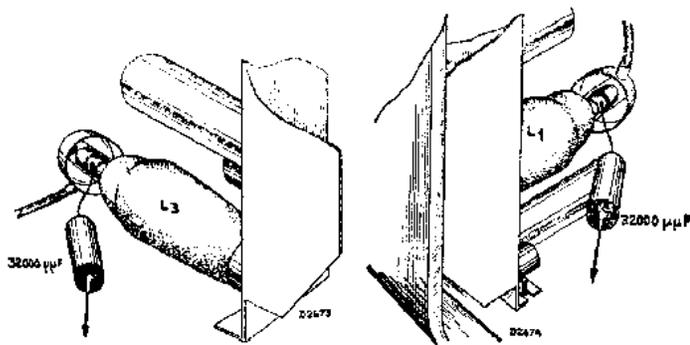
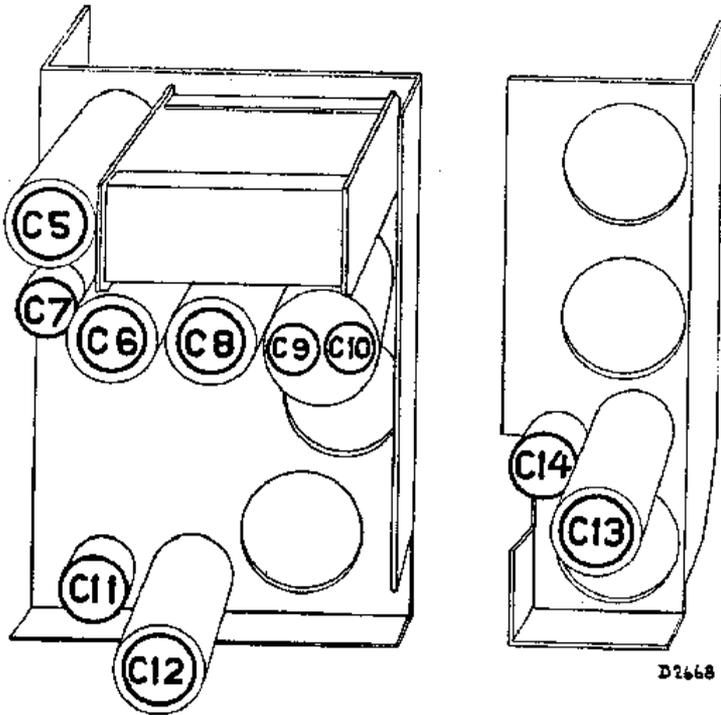

Fig. 2.
Fig. 4.
4. Apply modulated 128 K.C. signal through a 32,000  $\mu\mu\text{F}$  (Fig. 2) to the control grid of L3.
5. Trim C13 and then C14 (Fig. 4) for maximum output.
7. Apply modulated signal of 128 K.C. via 32,000  $\mu\mu\text{F}$  to grid 1 of L1 (Fig. 2) and trim C12 (Fig. 4) for maximum output.
5. Trim C9, C8, C6, C8, C9 (Fig. 4) for maximum output.